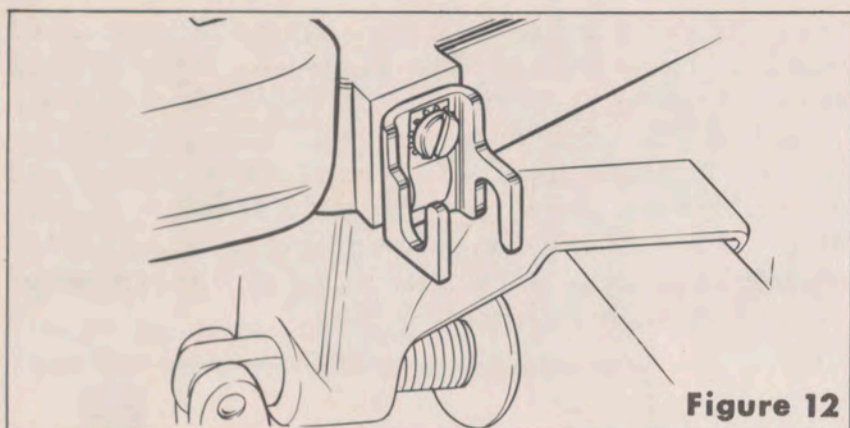

Figure 12
2. Attach the SILVER colored bracket to the port side of the motor on the boss provided, using the screw, lockwasher and clip provided. See Figure 12.